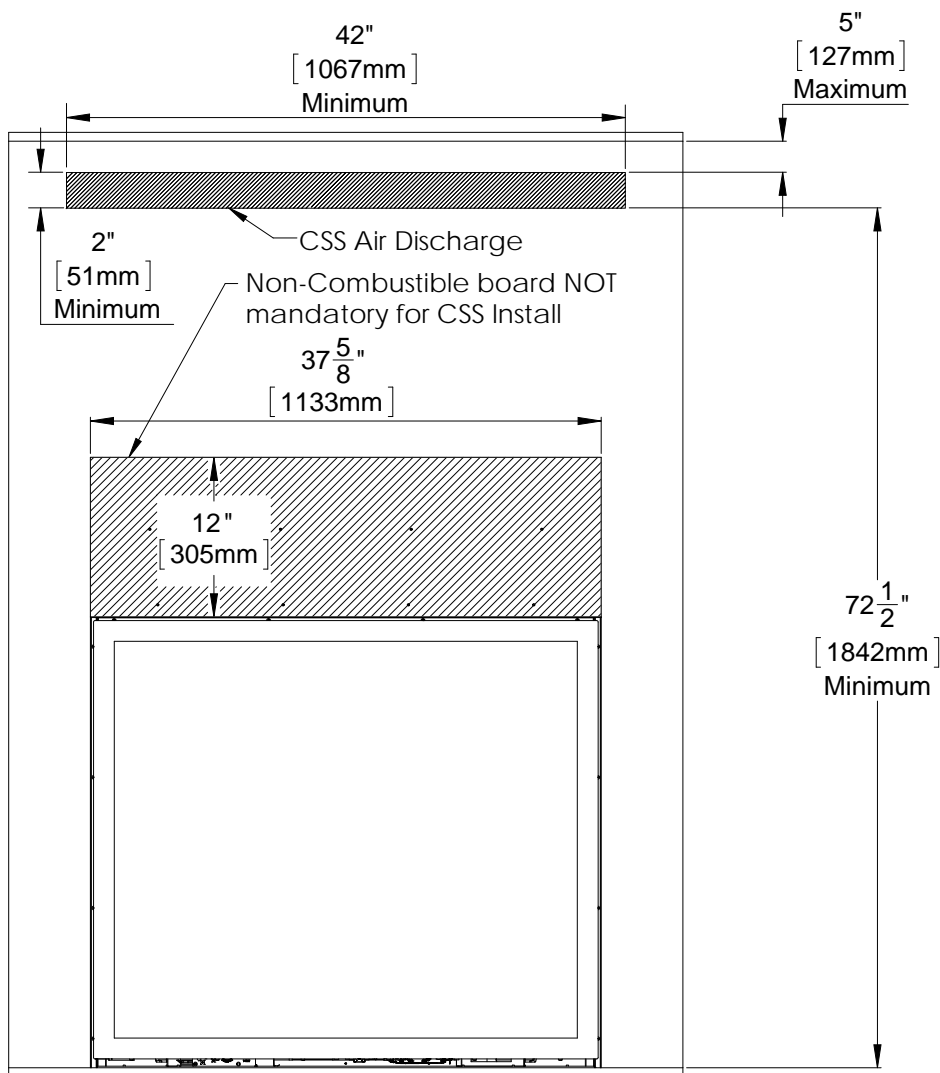
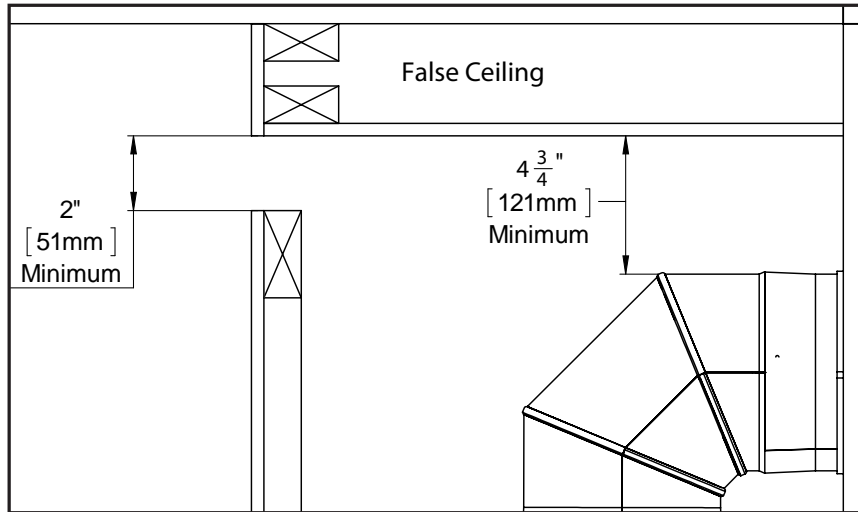

Figure 42: Framing Option 1
Figure 43: False Ceiling
**Framing Option 1: Front Discharge (flush wall installations)** - Construct the framing in a way that provides a minimum 42 inch (1067mm) by 2 inch (51mm) gap at the top of the facing wall. It is essential that these dimensions are respected and not to deviate away from them when using combustible materials inside the chase (see Figure 42).
**Optional: False Ceiling** - If your ceiling dimension is greater than the minimum (Figure 42) You may want the CSS Air discharge lower on the wall. To do this a false ceiling is required to properly evacuate the heat from the chase. (See Figure 43).